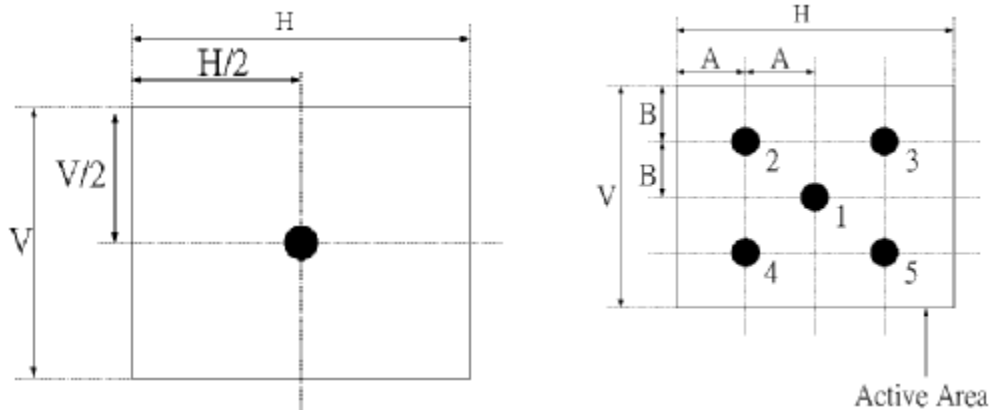

Fig.4-2 Optical measurement point
2. Surface luminance is luminance value at point 1 across the LCD surface 50cm from the surface with all pixels displaying white. From more information see FIG 4-2. When $I_{BL} = 4.5\text{mA}$, $L_{WH} = 450\text{cd/m}^2$ (typ.) $L_{WH} = L_{on1}$, Where L_{on1} is the luminance with all pixels displaying white at center 1 location.